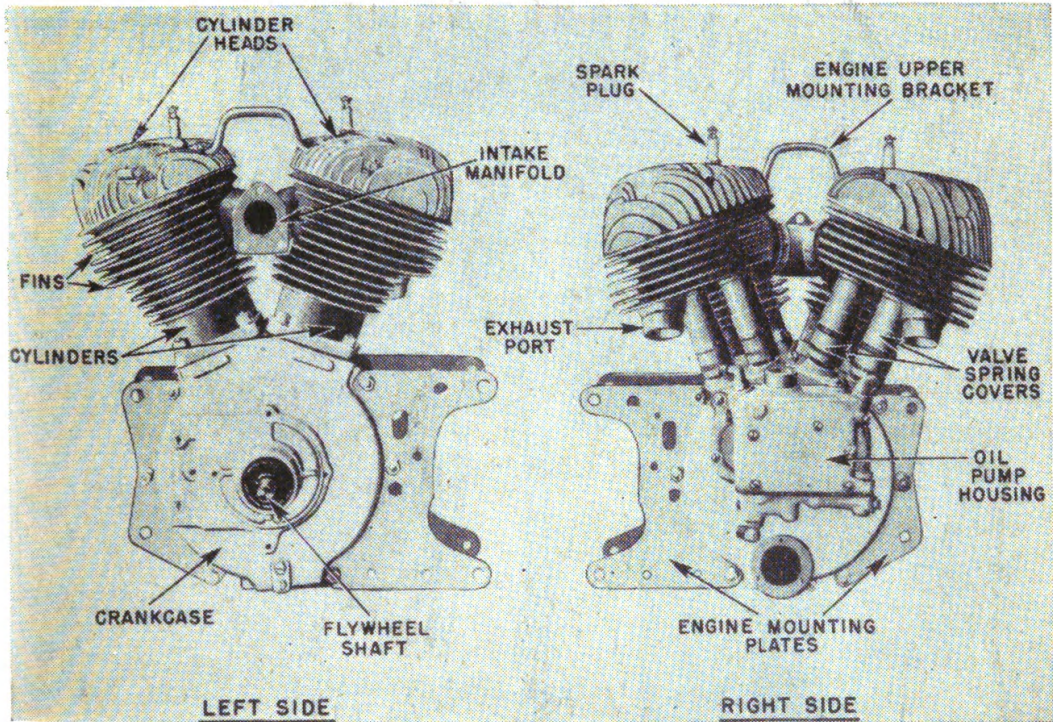

FIGURE 56.—Engine assembly.
(3) The above difference in travel ( $405^\circ$  and  $315^\circ$ ) causes a difference in timing of the power delivery on alternate strokes and explains the uneven operation of a two-cylinder, V-type engine.
**53. Crankcase, cylinders, and cylinder heads.**—*a.* The separate units are bolted together in the engine assembly, as shown in figure 56. The crankcase is of airtight design in order to maintain an oil pressure. The cylinders are cast iron, while the crankcase and the cylinder heads are usually aluminum alloy. The cylinders and heads are deeply finned to dissipate the heat more readily.